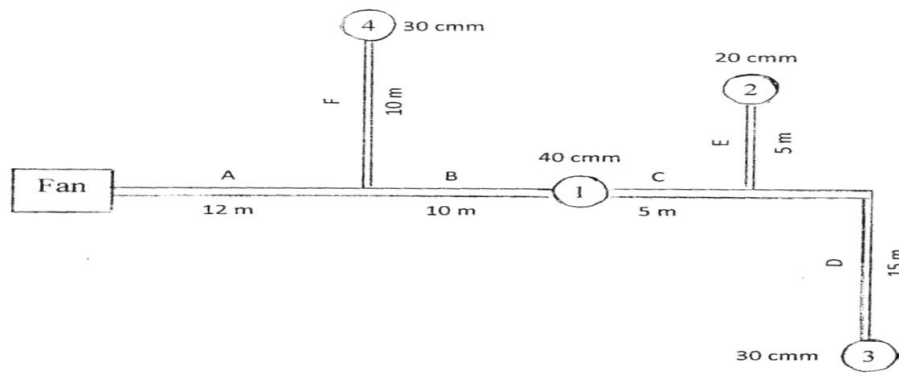

Fig. 1 - for Q. 9 b)
- Q.12 Determine the duct sizes of the duct system as shown in Fig.1 using equal friction method. 10